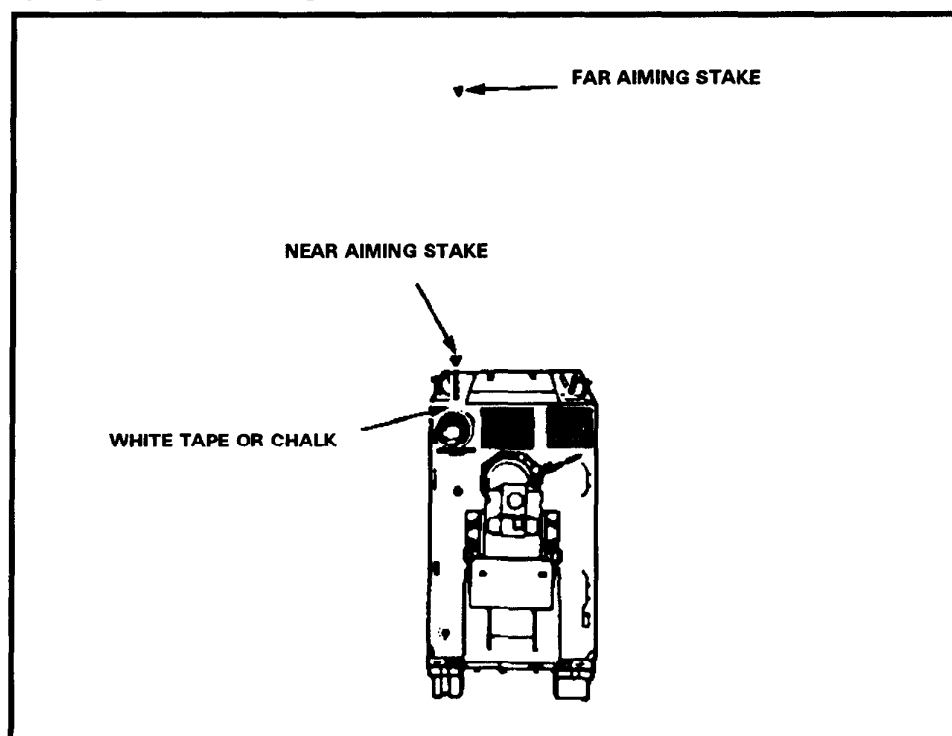

Figure E-13. Marking the ITV position (flat terrain)
(1) When flat terrain is to the front (Figure E-13)—